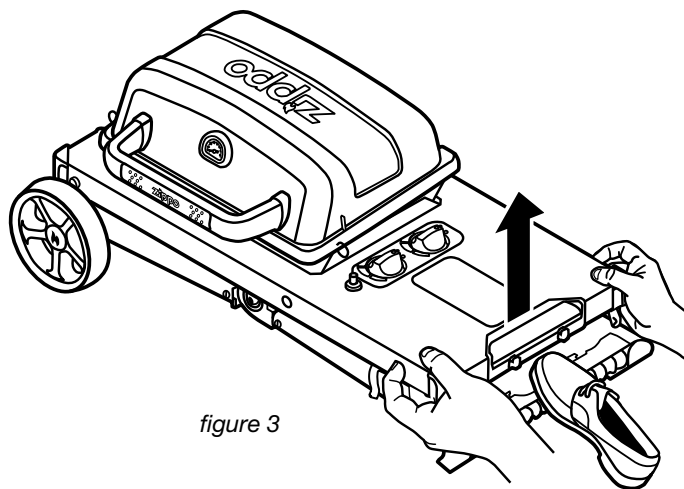

figure 3
1. Place foot on tow handle as shown in figure 3.